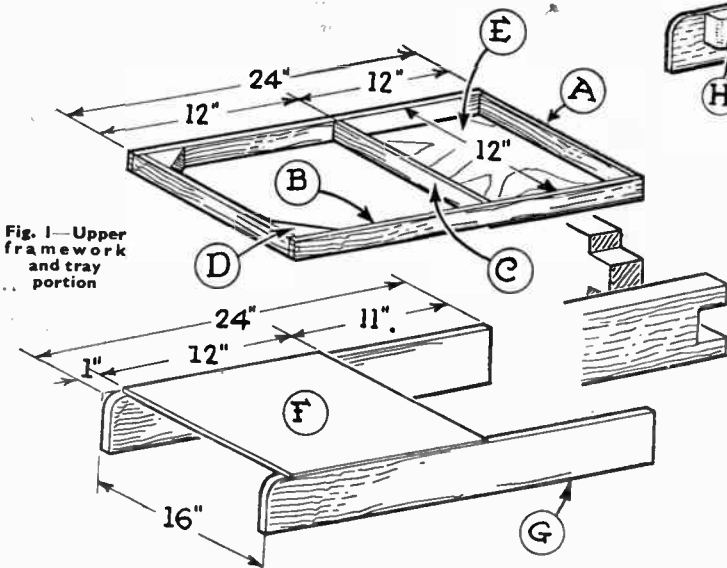

Fig. 1—Upper framework and tray portion
The first thing to make is the top (Fig. 1). This is a framework of, say, 1in. by  $\frac{1}{2}$ in. stuff. Do not have it unduly slender as the tray part is cantilevered out and may, one day, have a strain at the far end. The two short rails (A) may be simply jointed to the long rails (B), as shown. The middle rail (C) is merely fixed with a nail at each end. The triangular corner blocks, 2 $\frac{1}{2}$ ins. each way, are glued and screwed in place (D).